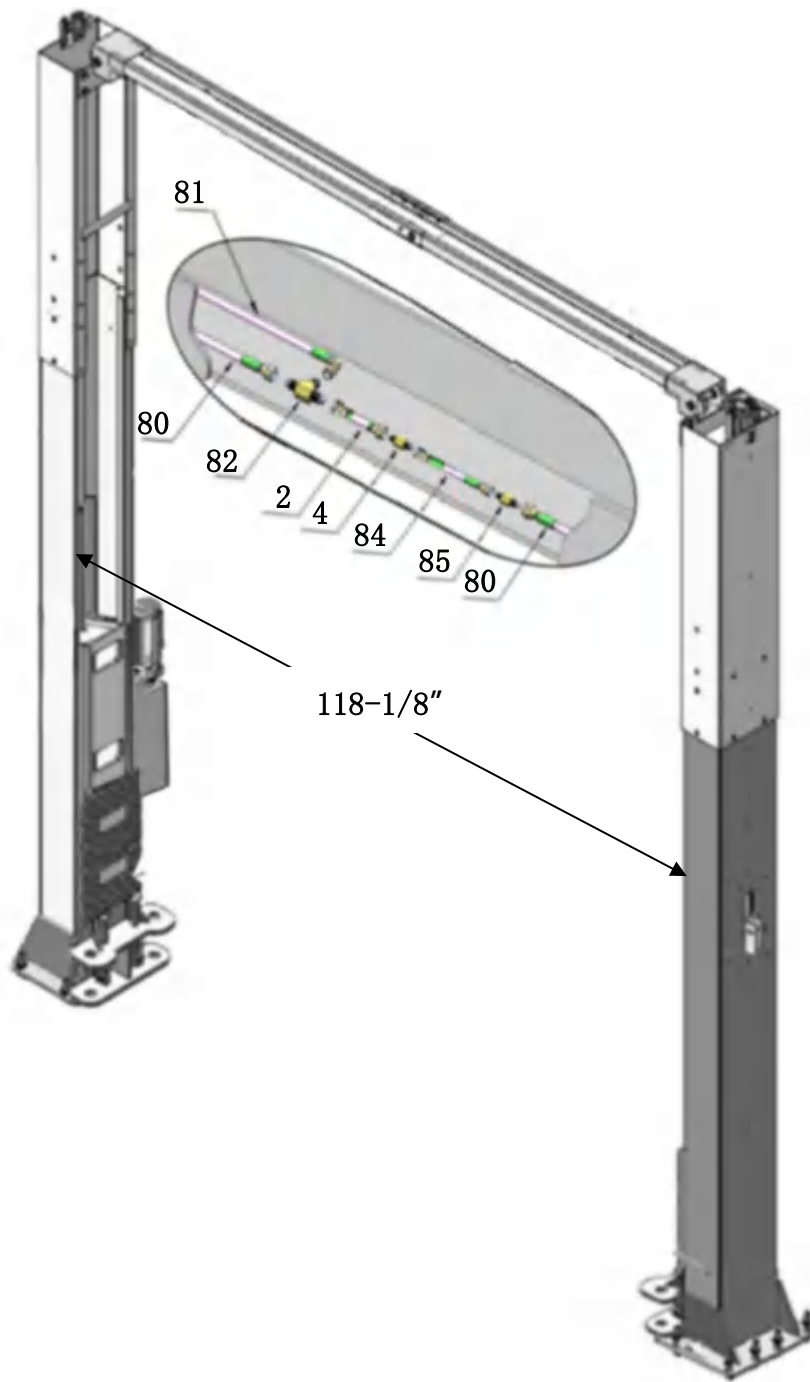

Fig.47
3. OHX-10H: width extension kits installation. (Fig.47)